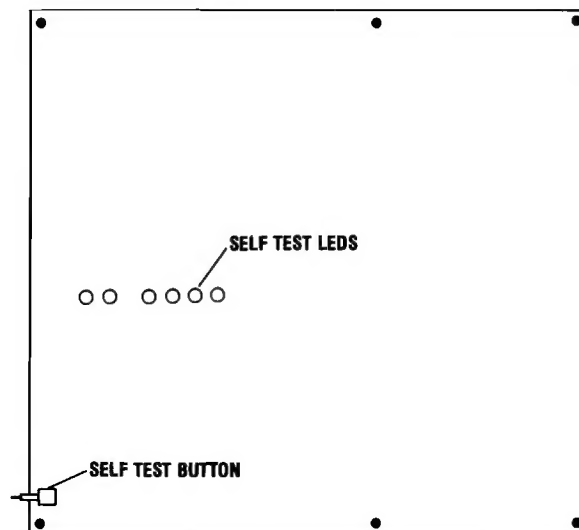

FIGURE 1-7 VIDEO BOARD (ON BACK SERVICE DOOR)
The Self Test Procedure is performed using the two (2) Switches located on the right inside corner of the Cabinet, and the Self Test Button and the LED'S on the Video PC Board. (See Figure 1-7).